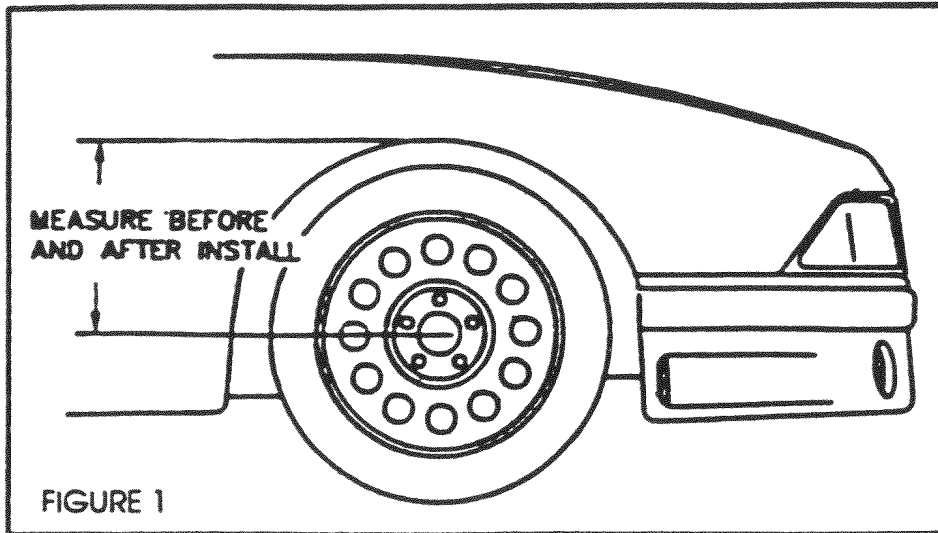

FIGURE 1
1. We strongly recommend that vehicle height measurements be taken **BEFORE** and **AFTER** all spring installations. Measure the distance from the inside of the fender arch, down to the hub center, at all four wheels. **RECORD THIS INFORMATION!!** All measurements should be taken with the vehicle on a smooth, level surface after the vehicle has been driven. This comparison is useful in both verifying the amount the vehicle is lowered and identifying ride heights particular to the specific vehicle. (See Figure 1)